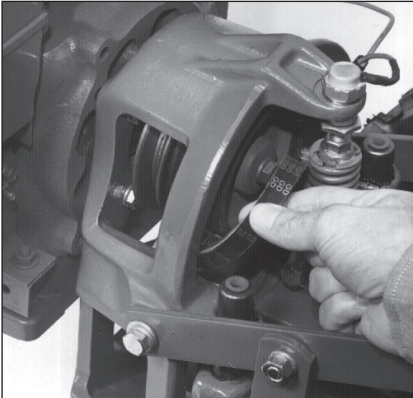

Figure 5-19: Move top half of belt over pulley and reverse disc.
5. Lift the top half of the belt up and over the upper pulley and the rubber reverse disc, moving it in front of the reverse disc (refer to Figure 5-19).